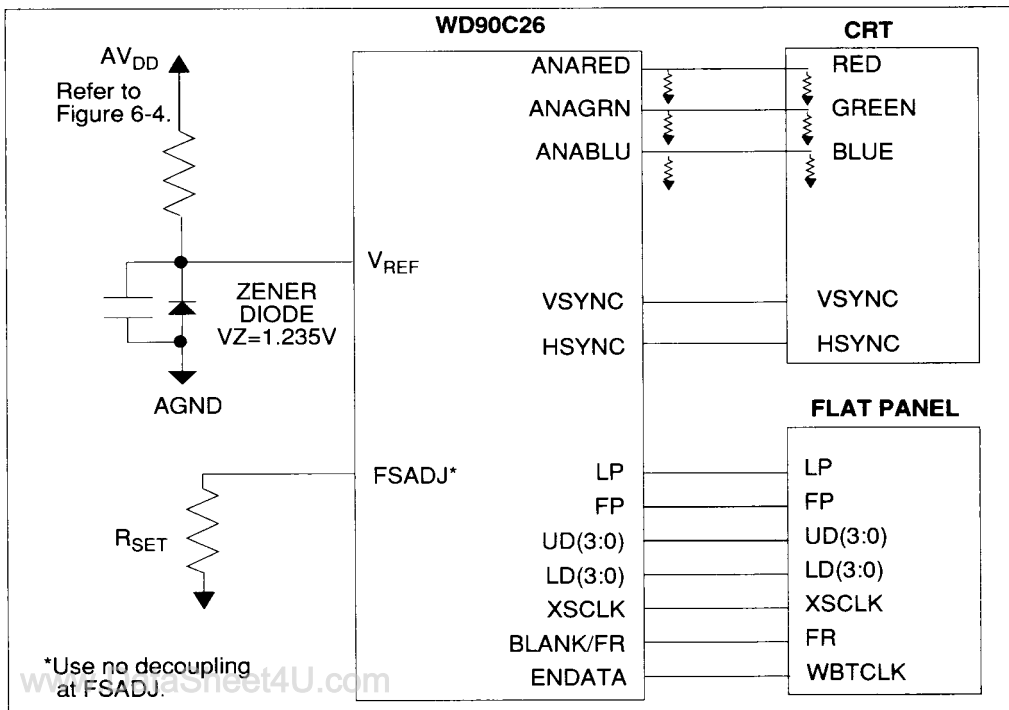

FIGURE 6-27 EXAMPLE OF CRT INTERFACE SHOWING V_{REF} AND FSADJ CIRCUITS
- Calculating the R_{SET} Value (Figure 6-27)